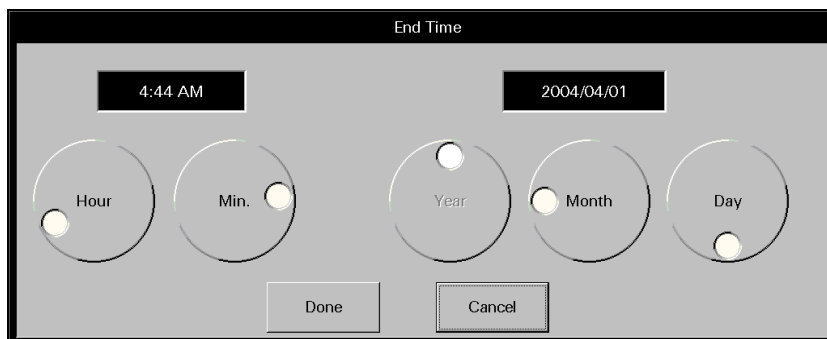

FIGURE 9-16 End Time Dialog Box
1. Select the End Time text box. The End Time dialog box (shown in FIGURE 9-16) is displayed.